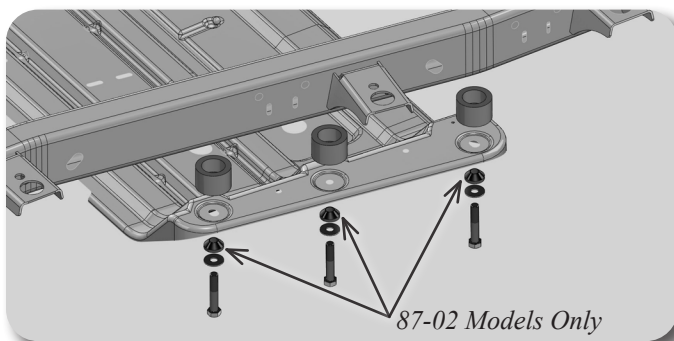

Figure 1
6. Attach the skid plate to the frame with the provided hardware: 87-02 models use 1/2" bolts with the provided 7/16 USS washers and conical washers. 03-06 models use 12mm bolts with 7/16" USS washers only. **Figure 1** Leave hardware loose.